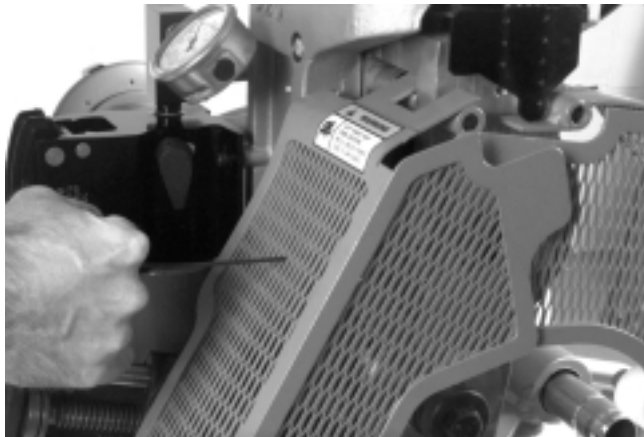

Figure 18 – Loosening Set Screw In Upper Roll Housing
2. Back off the $\frac{1}{4}$ - 20 set screw in the upper roll housing three turns (*Figure 18*) with the long T-handled hex wrench provided. **DO NOT REMOVE SET SCREW.**